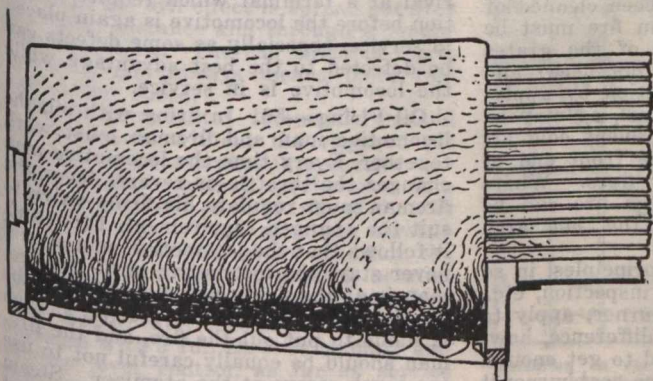

Fig. 7.
28. Fig. 7 shows the effect of a temporary reduction in fire box temperature